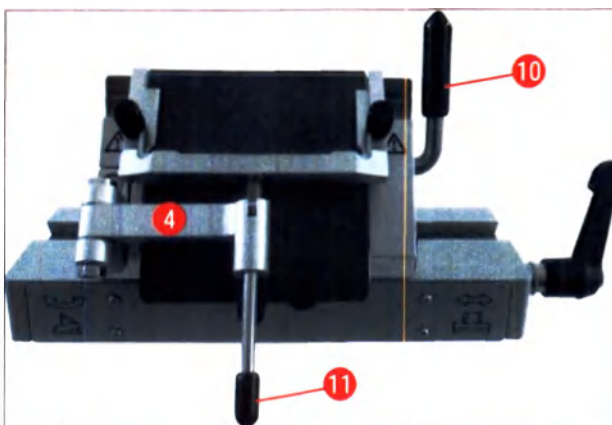

Fig. 31
4. Rotate clamping lever (→ "Fig. 31-10") clockwise to clamp (→ "Fig. 31").